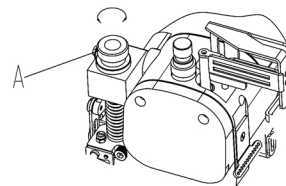

图35 (Fig.35)
3. 上滚轮压力的调整: 将压力调整螺钉(A)往顺时针方向转动, 则压力加大, 反之压力减小。(图35)
3. Pressure adjust: Turn pressure control knob (A) clockwise to increase the pressure of top roller, vice versa (Fig.35).